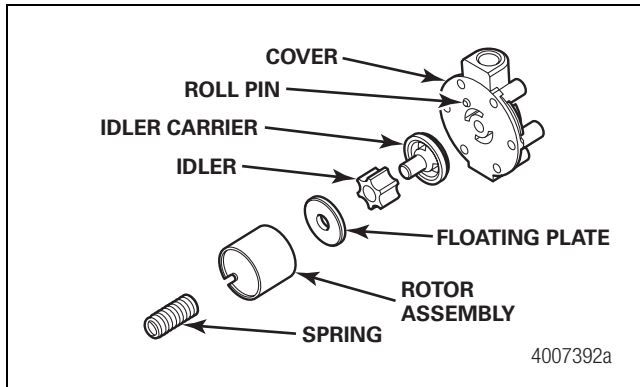

Figure 4.8
- B. Gently tap the idler carrier out of the rotor. The idler and floating plate will come out with the idler carrier. Figure 4.8.